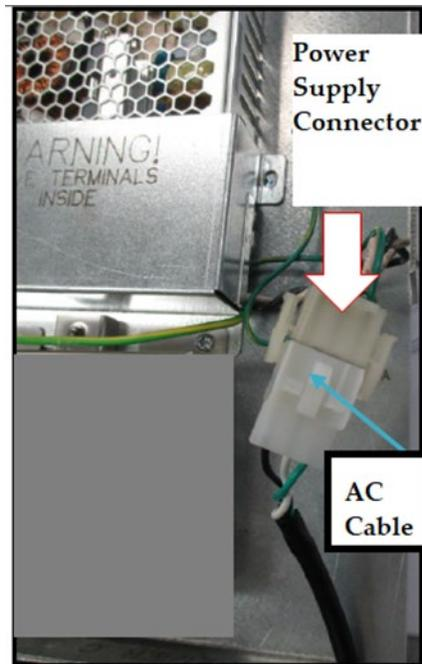

Figure 114
- 10) Disconnect the AC power cable that is attached to the power supply connector without the Invenco Link attached. See Figure 114 below.